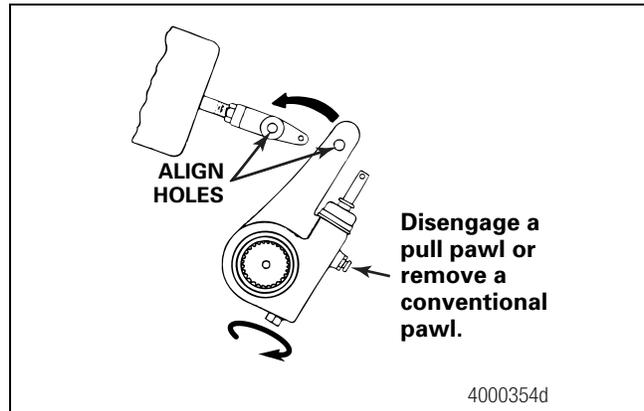

Figure 7.3
10. Disengage the pull pawl or remove a conventional pawl. Turn the manual adjusting nut to align the holes in the slack adjuster arm and clevis. Figure 7.3.